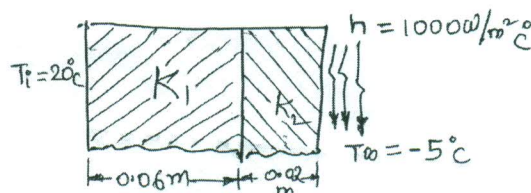

Fig.Q7(b)
b. Determine the temperature distribution through composite wall shown in Fig.Q7(b) when the convective heat loss occurs on the right surface. Take  $K_1 = 6 \text{ W/m}^2\text{C}$  and  $K_2 = 20 \text{ W/m}^2\text{C}$ . (10 Marks)